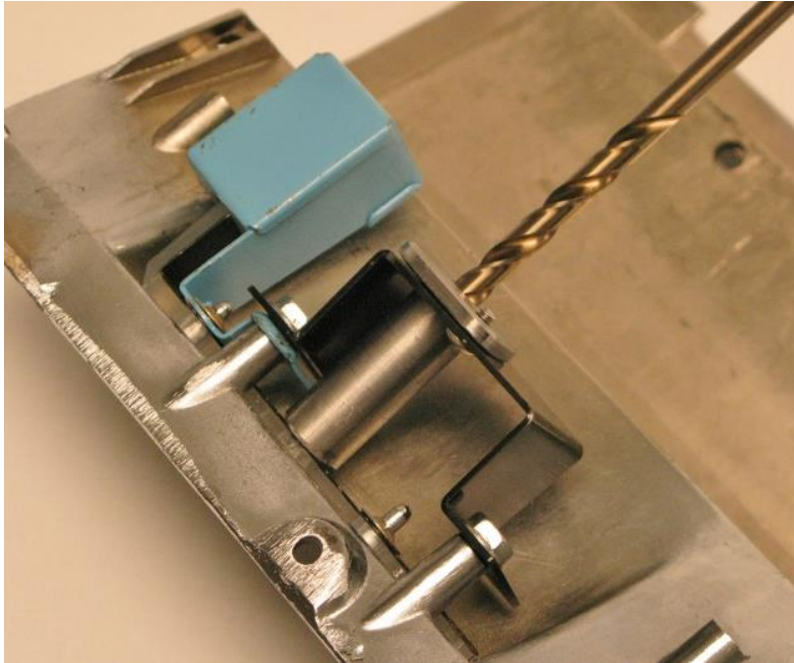

Figure 12 – Drill Center Dash Bezel
17. Using the drill guide, drill a hole into the center dash bezel up to 7/32" for the DSE wiper switch (Figure 12).